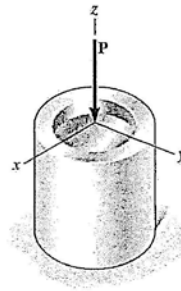

Fig. 2
2. A soft material is placed within the confines of a rigid cylinder which rests on a rigid support in Fig. 2. Determine the factor by which the stiffness of the material, or the apparent modulus of elasticity, will be increased when a load is applied, if  $\nu = 0.4$  for the material. (15%)